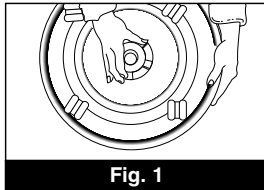

Fig. 1
**Step 2:** To open, gently place the air cleaner on its side and unscrew the locking mechanism located under the base assembly (Fig. 1).